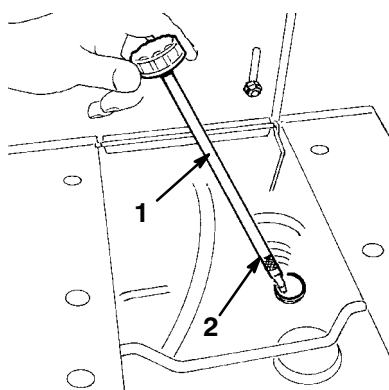

Figure 4
2. Unscrew and remove the dipstick from the oil fill tube (Fig. 4).